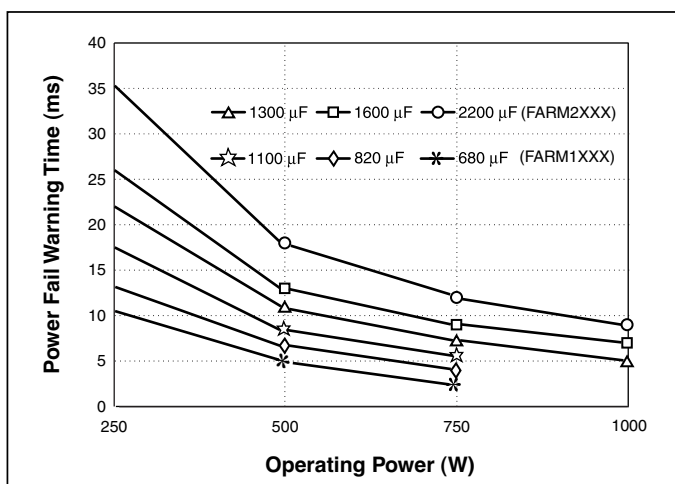

Figure 14 — Power fail warning time vs. operating power and total bus capacitance, series combination of C1, C2 (see Fig. 9)
Calculated values of bus capacitance for various hold-up time, ride-through time, and ripple voltage requirements are given as a function of operating power level in Figures 14, 15, and 16, respectively.
**Warning.** Figure 14 is used to determine capacitance for a given power fail warning time and power level, and shows that the total bus capacitance must be at least 820  $\mu\text{F}$ . Since two capacitors are used in series, each capacitor must be at least 1,640  $\mu\text{F}$ . Note that warning time is not dependent on line voltage. A hold-up capacitor calculator is available on the Vicor website, at [www.vicorpower.com/powerbench/product-calculators](http://www.vicorpower.com/powerbench/product-calculators).